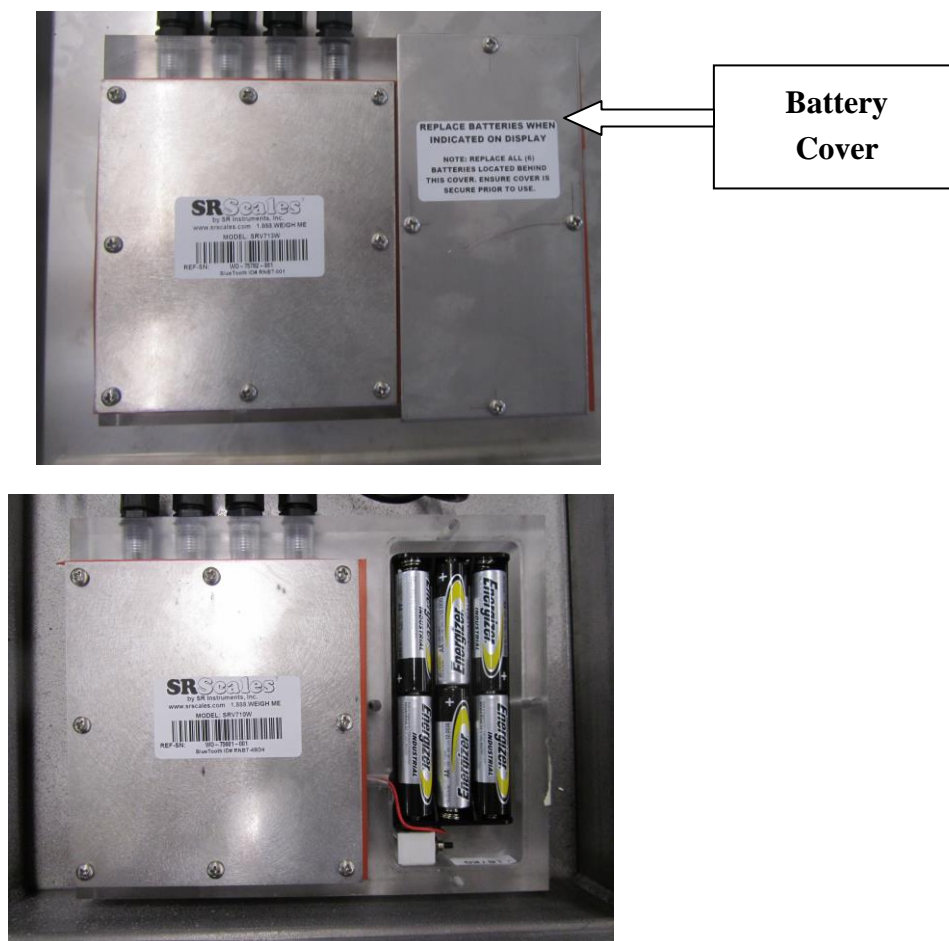

Figure 3: Battery Replacement
| Figure 3: Battery Replacement..... | 9 |
STEP 2: Remove the two (2) screws holding the display housing to the platform
STEP 3: Pull the display out from under the platform and remove the eight (8) screws from the display box cover pictured in Figure 3.